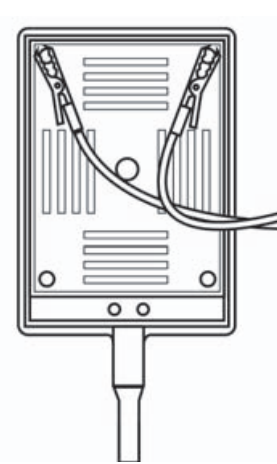

Figure 5-7 Transducer connector attachment
- b** Connect the red leads to the transducer connector as shown in Figure 5-7.